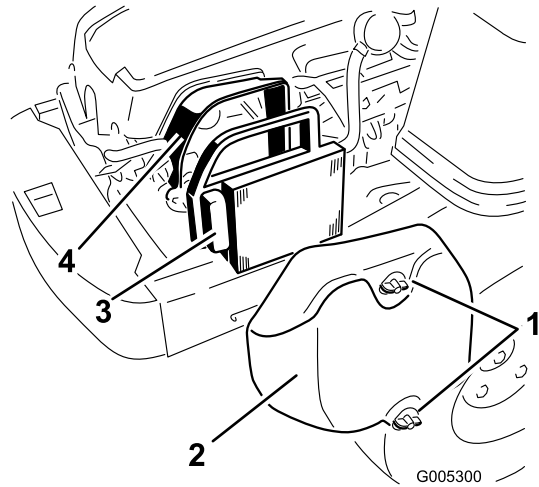

Figure 30
1. Remove the air cleaner cover (Figure 30).
2. Remove the air cleaner element with the integral rubber seal (Figure 30).
5. Install the air cleaner element with the pleated side “out” and seat the rubber seal onto the edges of the air cleaner base (Figure 30).
6. Reinstall the air cleaner cover and secure with the two knobs (Figure 30).